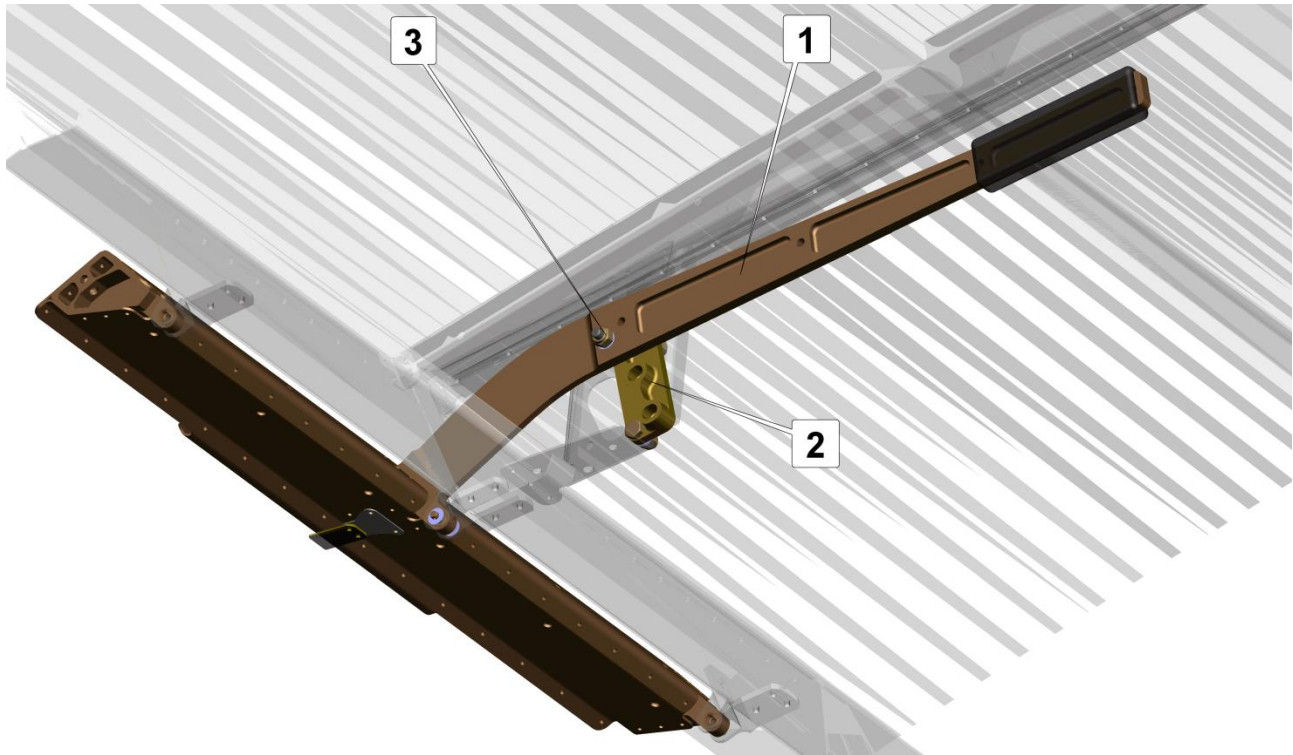

Fig. 8. Flap extension mechanism
The aileron drooping (flap extension) mechanism (**Fig. 8**) consists of a beam with lever (1) hinged to the upper rim of the frame No.3. Flap position setting is achieved with the fixer (2) having three holes for the pin (3) on the lever. Unfixing is achieved by bending the spring-like lever to the right. After the pin comes out of the fixer hole the lever can be set to the selected position. When the pin aligns with another hole of the fixer the lever springs back fixing the flaperons in a different position.